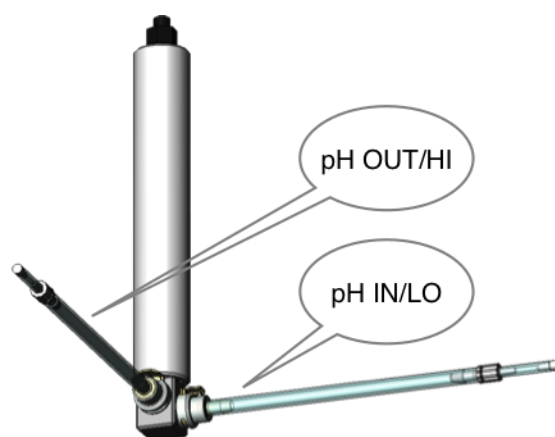

Figure 8-14:
10. Press and hold the latch of the pH IN/LO tubing line and push the connector on to the lower-right port of the lower section of the pH probe case. Release the latch and rotate the locking ring to the locked position. Ensure the latch faces upward, see figure 8-14.